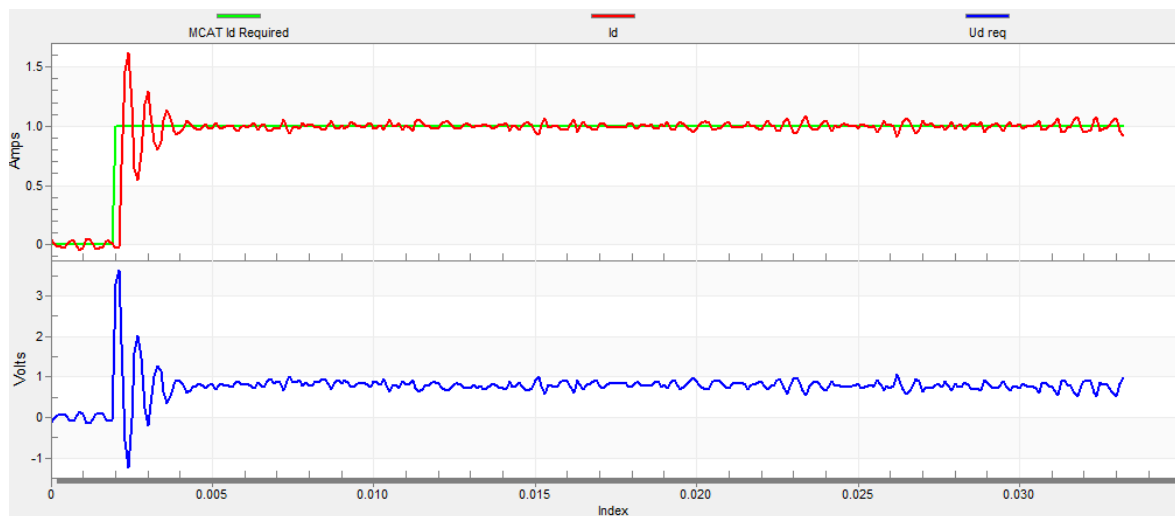

Figure 29. Fast step response of the I_d current controller
- The loop bandwidth is high (700 Hz) and the response time of the I_d current is very fast, but with oscillation and overshoot (see Figure 29).